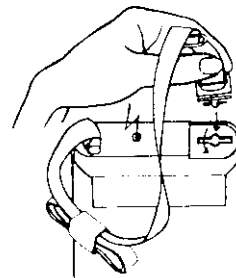

fig. 9
1. Take the neck strap out of the case. Plug the bayonet joint into the socket with gentle pressure and a $\frac{1}{4}$ of a turn to the left or right until it clicks in (forced ON/OFF switch, fig. 9).